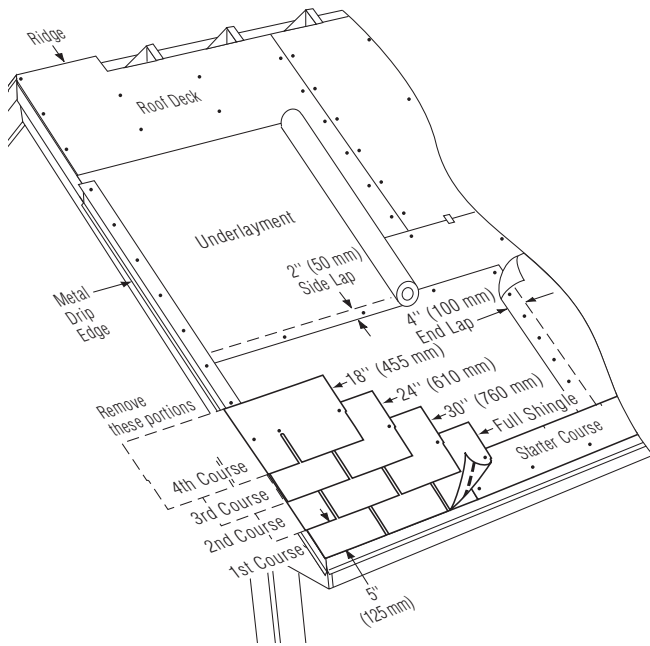

Figure 13-7: Applying the first 4 courses on a standard slope.
**1ST COURSE:** Apply a full shingle at the lower left corner of the roof. Make the tabs flush with the starter-course shingle at the eaves and rake (Figure 13-7).
1. Start the second course by first cutting 6" off the left end of a full shingle, then installing the 30" piece over the first course. Leave 5" of the first course exposed, and make the left edge flush with the first-course shingle at the rake (Figure 13-7).